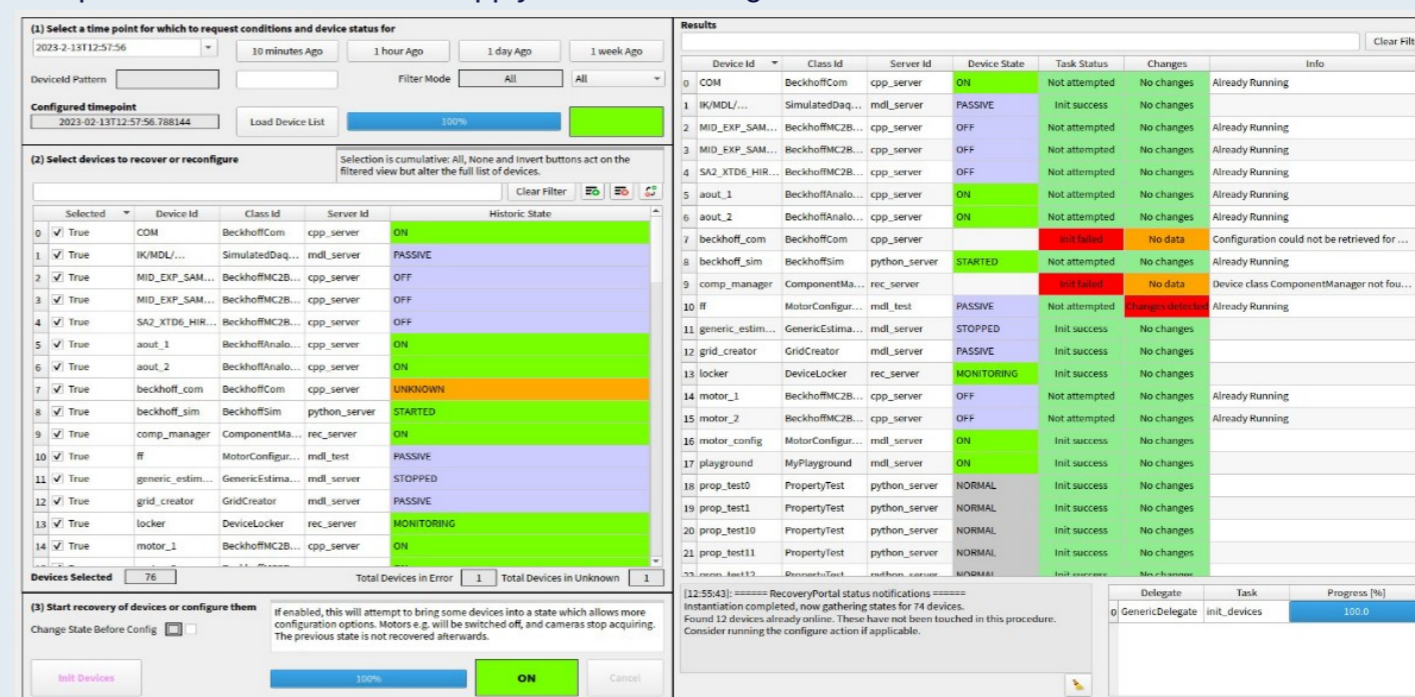

Fig. 2. Recovery portal scene to instantiate and reconfigure devices.
- To avoid manual start of Karabo devices, recovery portal provides a step-by-step device bring up and condition recovery procedure (Fig.2):